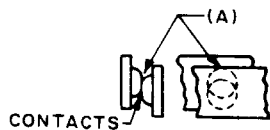

Fig. 2 — Maximum Permissible Contact Misalignment
2.03 Contact Alignment: Fig. 2 (A) — Contacts shall not be out of alignment more than 40 per cent of their base diameter.